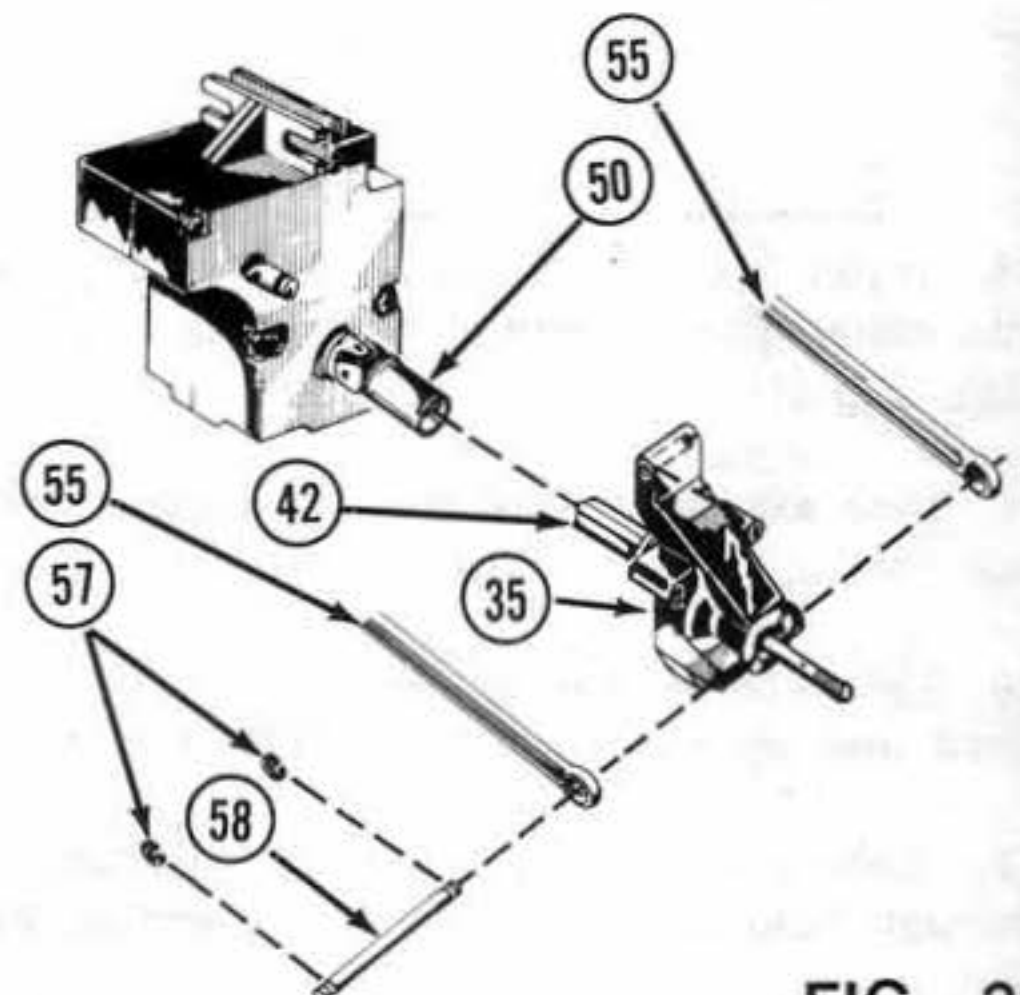

FIG. 23
24. Align splines and grooves of drive shaft halves. Slide male section (42) of drive shaft into the female section (50) that is attached to gear box. Fig.23
25. Taking care not to separate the drive shaft, align the free ends of the links (56) on either side of the hub (35) with the hole running through the hub (35) just below the rear axle (40). Fig.23
26. Slide 1/8 X 1.420" hinge pin (58) through links (56) and hub. Secure both ends with 1/8" E-clips (57). Check for freedom of travel. Fig.23